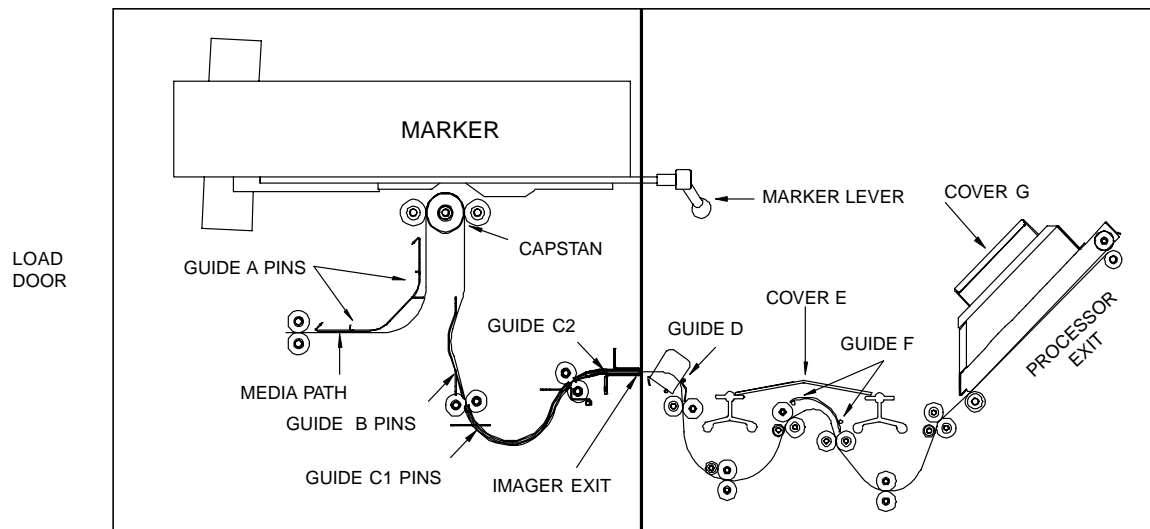

Figure 7-1b Clearing MicroPlate Model Media Path
1. Open the load door and pull on the load knob. Raise marker by pulling marker lever fully toward the front of the Platesetter. Gently lift up the marker (see Figure 7-1b).